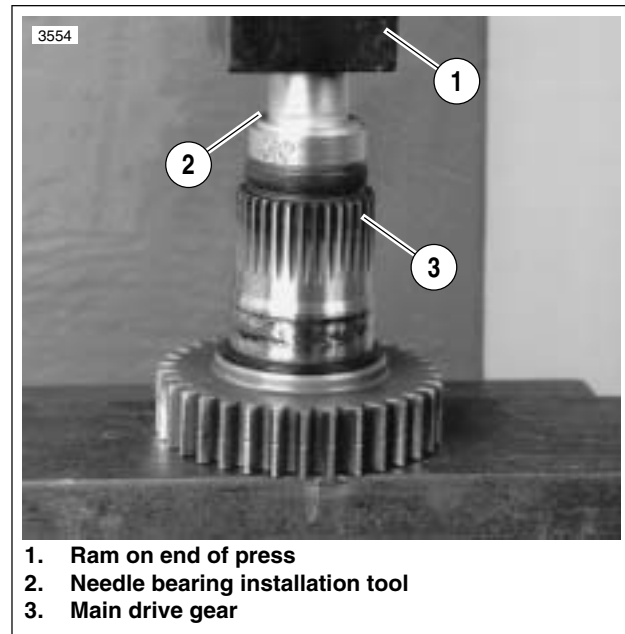

Figure 6-40. Needle Bearing Installation Tool
1. See Figure 6-40. Use INNER/OUTER MAIN DRIVE GEAR NEEDLE BEARING INSTALLATION TOOL (Part No. HD-37842-A) for assembly. Select which end of tool to use.